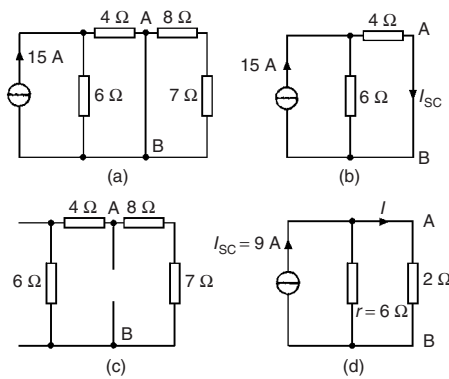

Figure 13.62
- (i) The 2 Ω resistance branch is short-circuited as shown in Fig. 13.62(a)
- (ii) Fig. 13.62(b) is equivalent to Fig. 13.62(a). Hence
- (iii) If the 15 A current source is replaced by an open-circuit then from Fig. 13.62(c) the resistance ‘looking-in’ at a break made between A and B is given by (6 + 4) Ω in parallel with (8 + 7) Ω, i.e.
- (iv) From the Norton equivalent network shown in Fig. 13.62(d) the current in the 2 Ω resistance is given by: